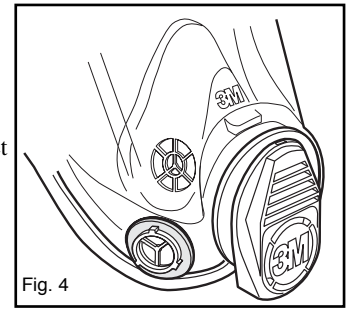

Fig. 4
2. Install new gaskets onto facepiece inhalation port bayonet fittings. Be certain gaskets are in proper position under all three lugs of each bayonet port. (Fig. 4)